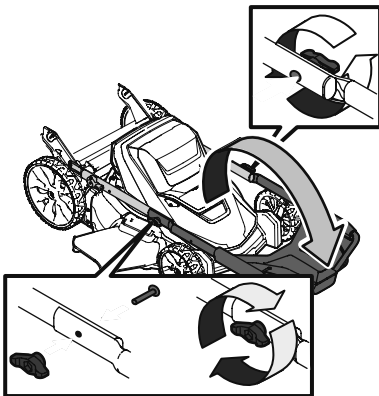

Figure 3
1. Loosen the wing knob securing the left side upper and lower handle together shown in Figure 3 inset.
3. Gently lift and pivot the upper handle into the position shown in Figure 3.
4. Insert bolt through the right side lower and upper handle. Thread wing knob onto bolt. See Figure 3 inset.